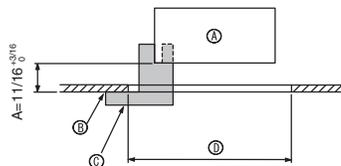
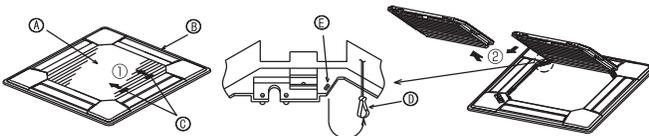
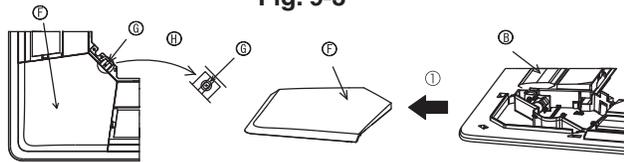

Fig. 9-2
Fig. 9-3
Fig. 9-4
①	Grille	1	950 × 950 (mm), 37-3/8 × 37-3/8 (inch)
②	Screw with captive washer	4	M5 × 0.8 × 25
③	Gauge	1	(Divided into four parts)
④	Fastener	3
⑤	Screw	4	4 × 8
⑥	Screw	1	4 × 12
9.2. Preparing to attach the grille (Fig. 9-2)
- With the gauge ③ supplied with this kit, adjust and check the positioning of the unit relative to the ceiling. If the unit is not properly positioned relative to the ceiling, it may allow air leaks or cause condensation to collect.
- Ⓒ Gauge ③ (inserted into the unit)
9.2.1. Removing the intake grille (Fig. 9-3)
- Slide the levers in the direction indicated by the arrows ① to open the intake grille.
- With the intake grille in the "open" position, remove the hinge of the intake grille from the grille as indicated by the arrows ②.
9.2.2. Removing the corner panel (Fig. 9-4)
- Remove the screw from the corner of the corner panel. Slide the corner panel as indicated by the arrow ① to remove the corner panel.
[Fig. 9-3] [Fig. 9-4]